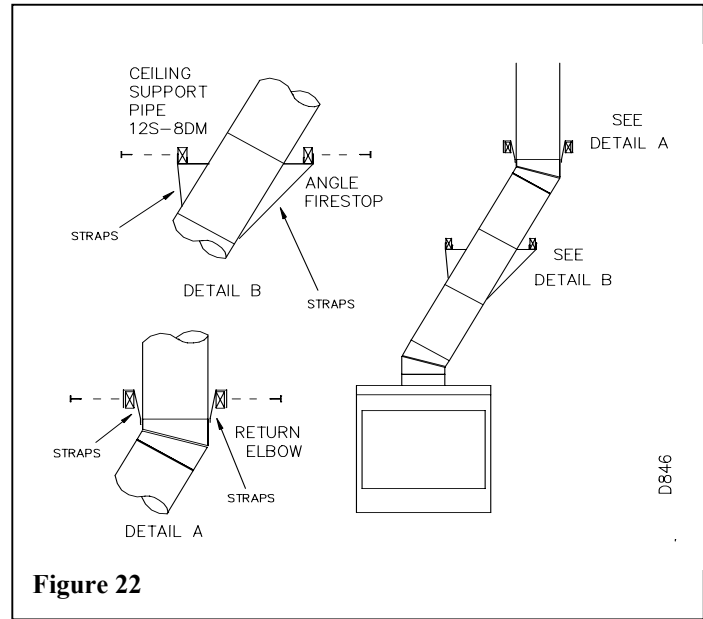

Figure 22
- To achieve desired offset, you may install combinations of 12", 18", 24", 36" and 48" length of double wall pipe (SEE SINGLE OFFSET CHART, FIGURE 22 & 24).
- Chimney weight above offset rests on return elbow. Straps must be securely nailed to rafters or joists (see figure 22, details a & b).